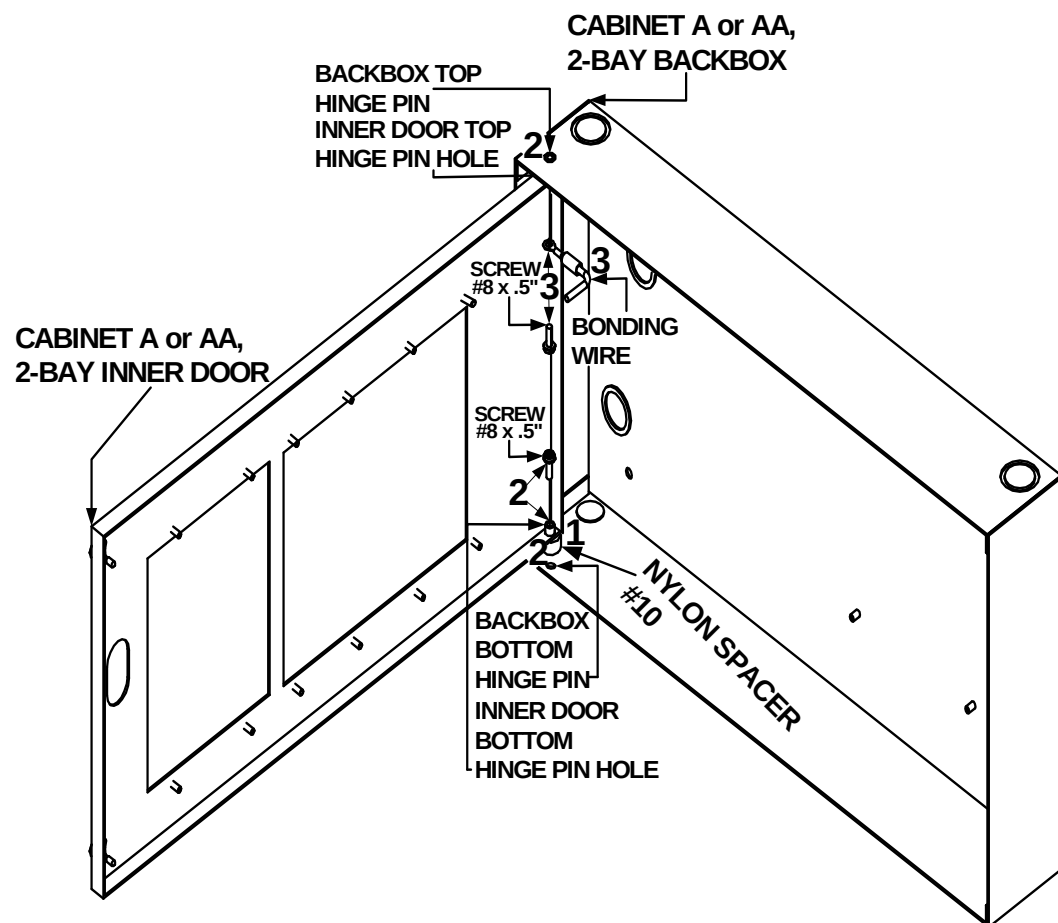

Figure 2.5.4.4.1 Cabinet A or AA, 2-Bay Inner Door to the Backbox Installation
**NOTE:** For information on the installation of the opposite end of the bonding wire, see Section 2.5.4.5, Step 3 and Location 3 of Figure 2.5.4.5.1.